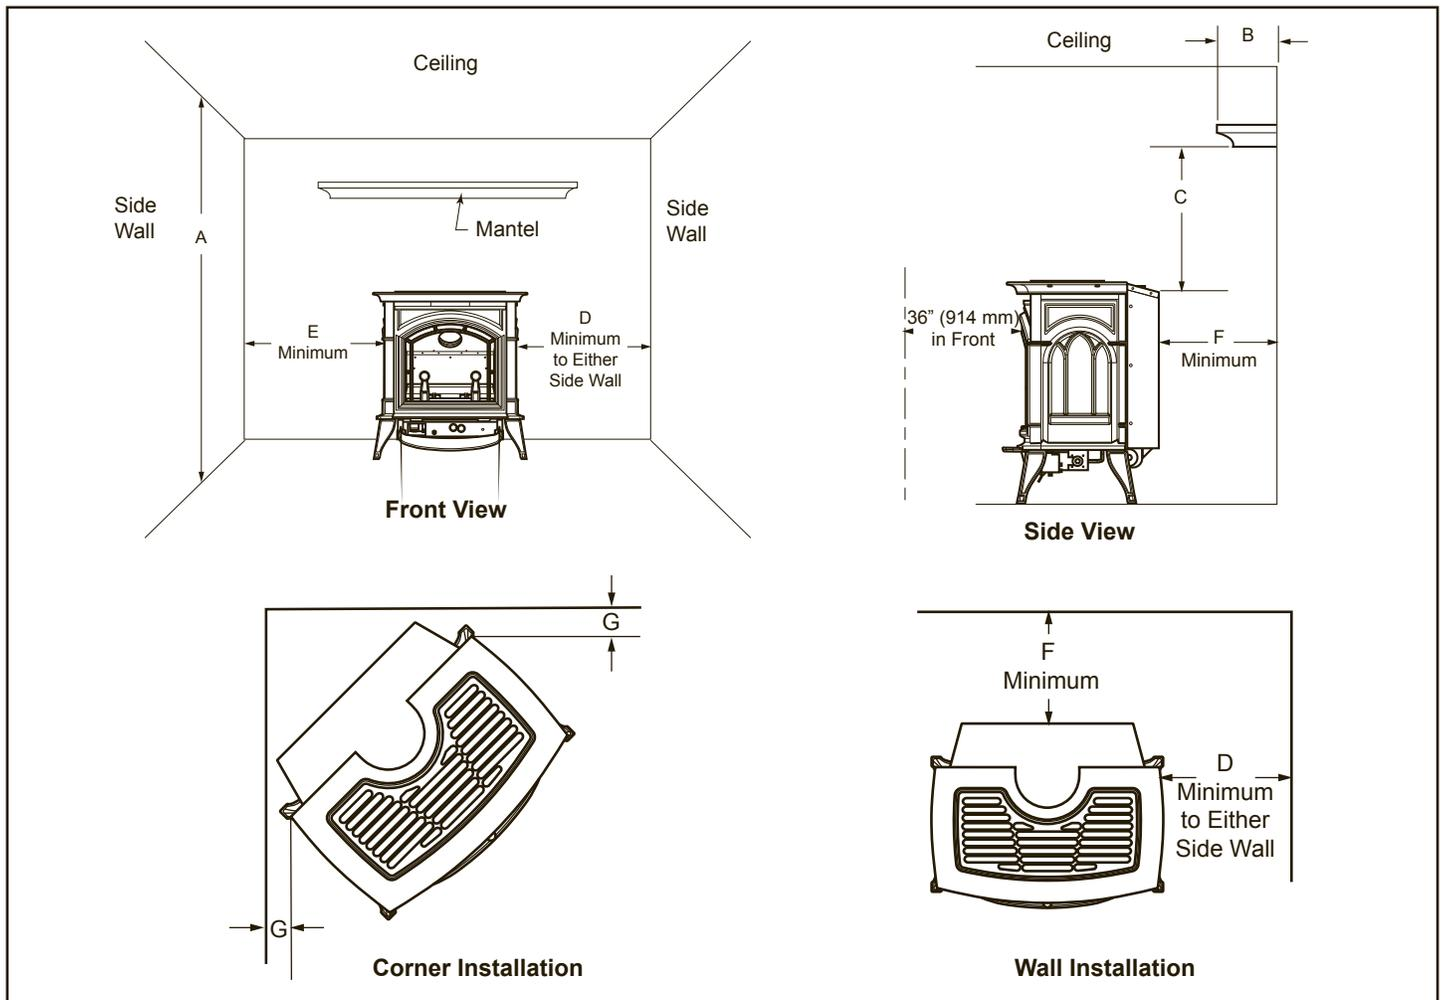

Figure 4 - Minimum Clearances to Walls and Ceiling
- Minimum clearances to combustibles, side-wall, ceiling, woodwork, and windows **must be maintained**. Page 8, Figure 4
The dimensions shown in Figures 4 and 5 are minimum clearances to maintain in installing this heater. Left and right clearances are determined when facing the front of the heater.